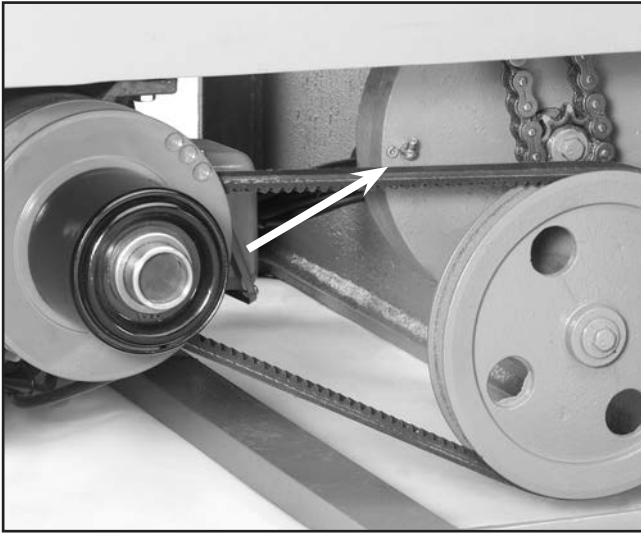

Figure 21. Transmission box grease fitting.
- 2. **Transmission Box** — Lubricate after every 12 hours of continuous use. See **Figure 21** for location.